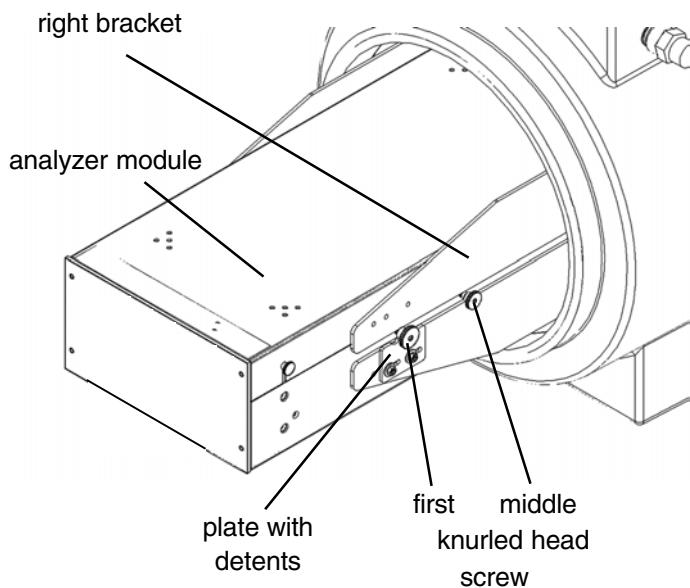
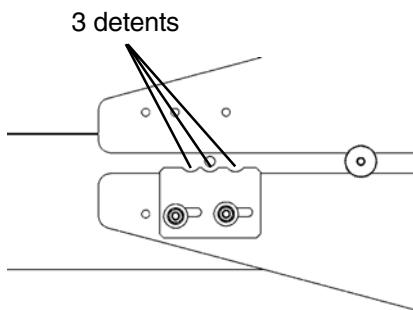

Fig. 15-12: View at analyzer module
Fig. 15-13: Plate with detents
- When dome is removed unscrew the knurled head screws at the analyzer module's sides (fig. 15-12) and pull it to the front until the last screw locks into the detent (fig. 15-13).